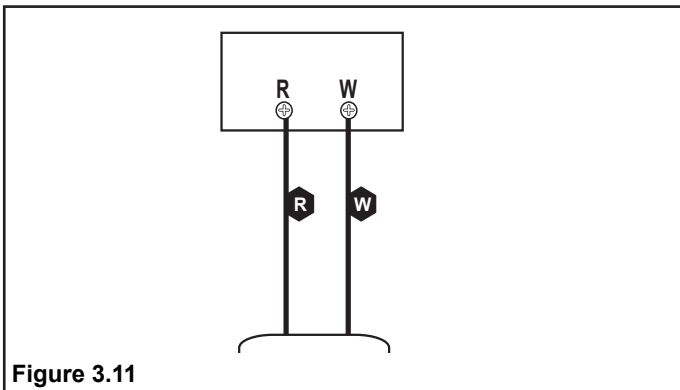

Figure 3.11
5. Connect your thermostat wire to the W and R terminals. See Figure 3.11.